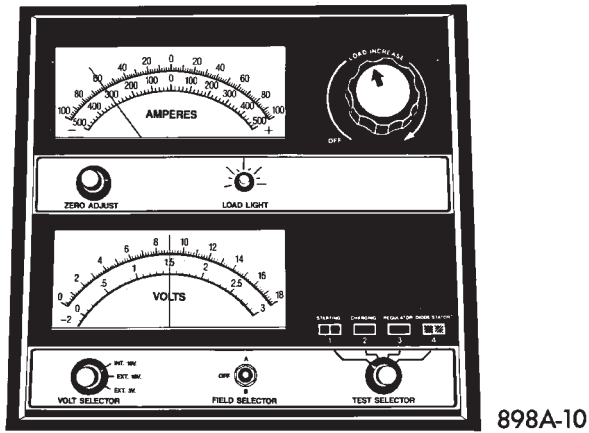
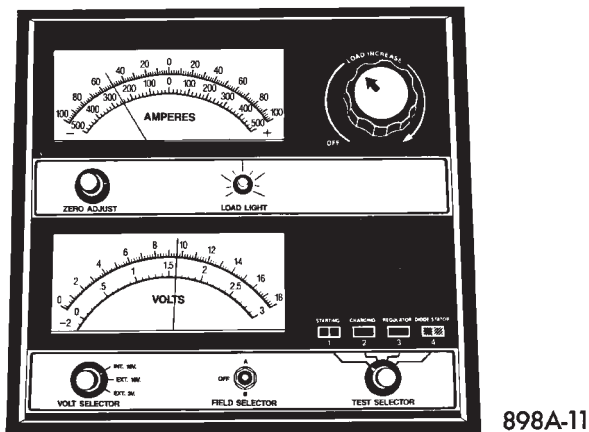

Fig. 6 Remove Surface Charge from Battery
Fig. 7 Load 50% Cold Crank Rating Note Voltage
(3) Rotate the load control knob (carbon pile rheostat) to apply a 300 amp load for 15 seconds then return the control knob to OFF (Fig. 6). This will remove the surface charge from the battery.
(4) Allow the battery to stabilize to open circuit voltage (may take up to 5 minutes).
(5) Rotate the load control knob to maintain a load (50% of cold crank amperage rating—see Specifications) for a minimum of 15 seconds (Fig. 7). After 15 seconds, record the (loaded) voltage reading and return the load control knob to OFF.
(6) Voltage drop will vary according to battery temperature at the time of the load test. Battery temperature can be estimated by the ambient temperature over the past several hours. If the battery has been charged, boosted, or loaded a few minutes prior to test, the battery would be somewhat warmer. Refer to Load Test Temperature chart for proper loaded voltage reading.